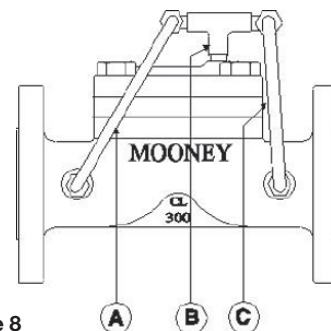

Figure 8
2. Pipe regulator with the inlet, outlet, and loading connections all common so that pressure is equalized in the entire valve during the hydrostatic test. See Figure 8.